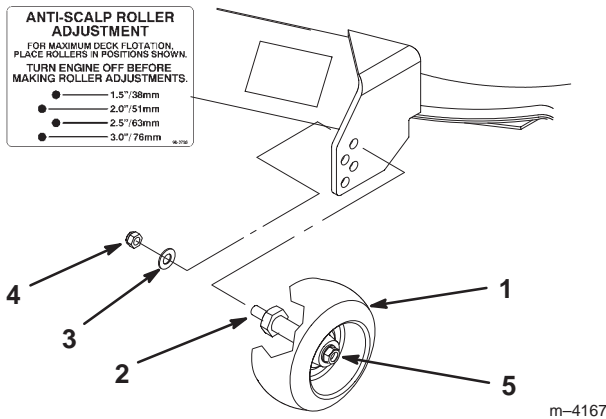

Figure 12
2. After adjusting the height-of-cut, remove the nut and washer while holding the stud with a wrench (Fig. 12).
Note: Do not remove the wheel nut and washer (Fig. 12).
3. Select a hole so that the gauge wheel is positioned to the nearest corresponding height-of-cut desired (Fig. 12).
4. Install the stud nut and washer (Fig. 12).